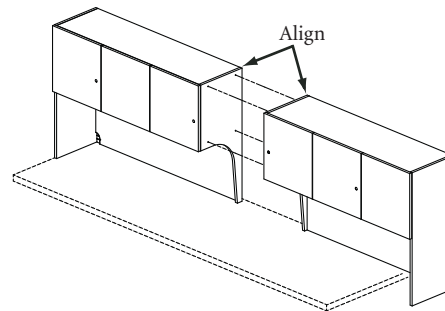

Figure B1
2. Align connecting holes in highbacks and attach highbacks together using the four (4) provided connecting bolts. Insert half of a connector bolt into one connecting hole, and insert the other half into the opposite connecting hole. Tighten all bolts securely, making sure both highback halves are flush against each other with no gaps. (Figures B1 and B2).